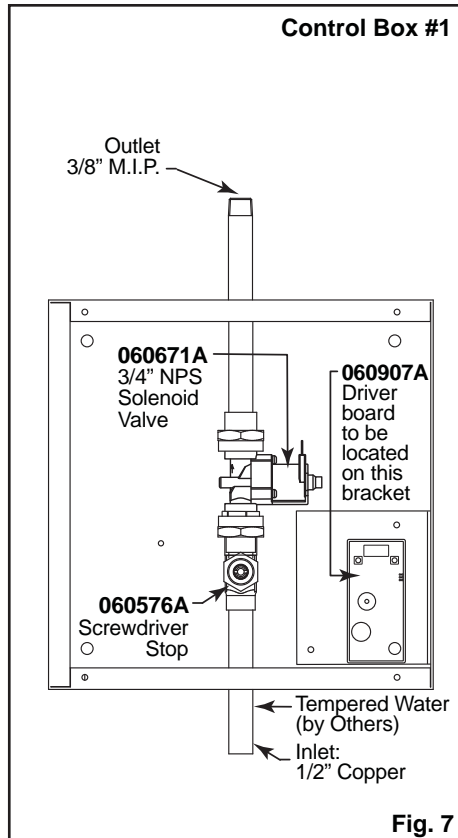
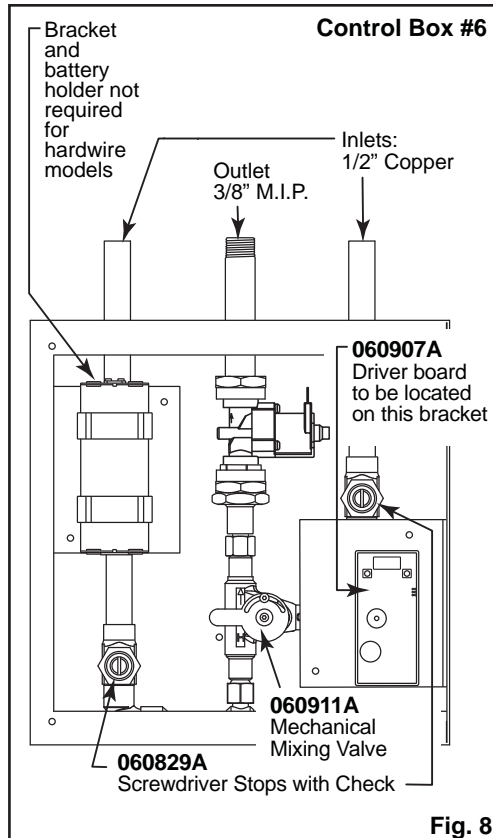
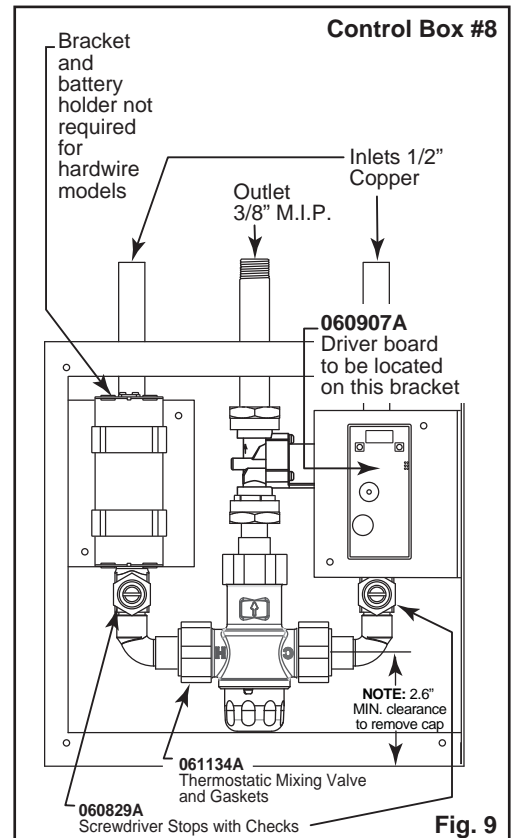

Fig. 7
Fig. 8
Fig. 9
Install sink and connect drainage to rough in. See applicable Fig. 7, Fig. 8 or Fig. 9. Please note that the connection tube and fittings are supplied by the installer to connect the 3/8" MIP at the box outlet and compression joint for 3/8" O.D. Soft copper tube at the spout. Connect water supply through to spout. Assure supply lines are completely flushed and free of debris.
- 4C** If **Mechanical Mixing Valve** (060911A) (Fig. 8). Adjust setting to the desired temperature and lock in place by tightening the vandal resistant screw.
If **Thermostatic Mixing Valve** (Fig. 9). To adjust the mixed outlet temperature of the valve, remove the cap to gain access to the adjusting spindle. The spindle should be rotated towards the "C" side to reduce the temperature and towards the "H" side to increase the temperature - until the desired set point is reached (refer to Fig. 11).